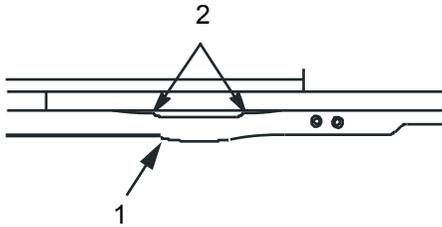
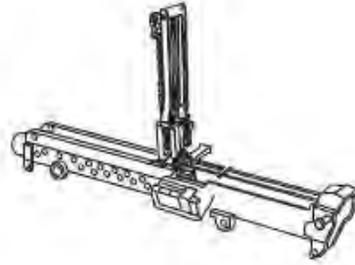

Figure 8. Upper Rail Separation
Figure 9. Receiver Assembly.
Separation generally occurs in the cut-out area just rear of the cocking handle stop (Figure 8, Item 2). Weapons should be coded out. Receiver is non-repairable.
3. Check the cocking handle channel (Figure 8, Item1) for separation (Figure 8, Item 2) from receiver (Figure 9). Replace receiver as needed.